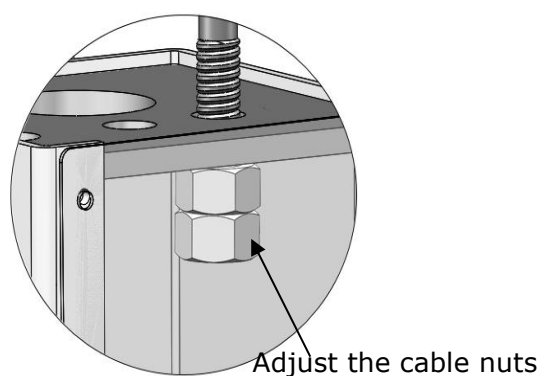

Fig. 52
1. Adjustment of sync cable (See Fig. 52)